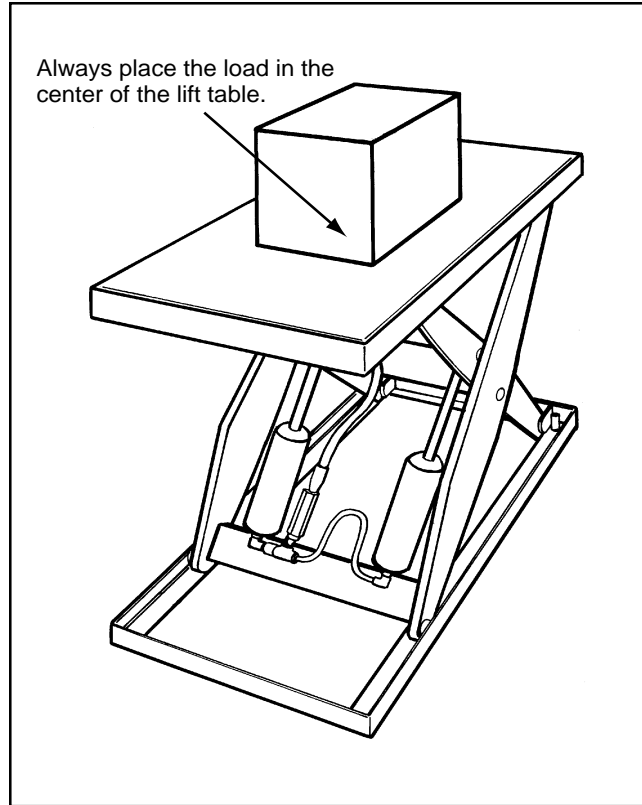

Fig. 3 – Center the Load
- Place the load in the center of the lift table, as shown in Fig. 3.